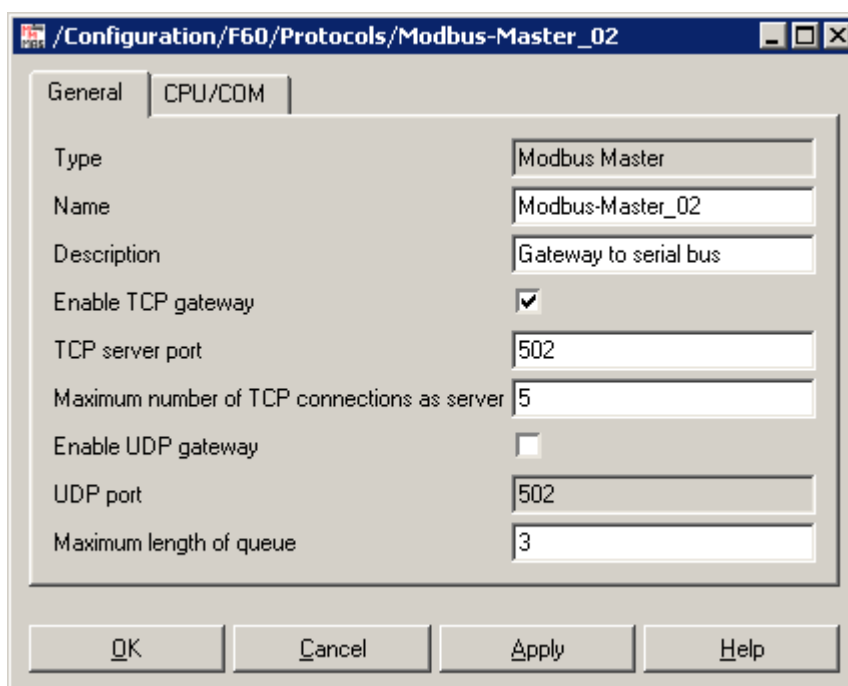
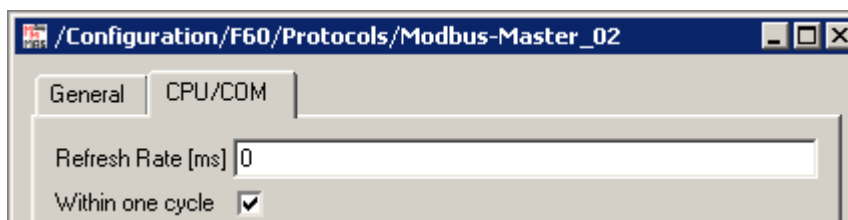

Figure 33: Tab „General“ in the dialog box „Modbus Master 02“
Figure 34: Tab „CPU/COM“ in the dialog box „Modbus Master 02“
- Enable the TCP gateway and enter the parameters displayed in Figure 33 and Figure 34.